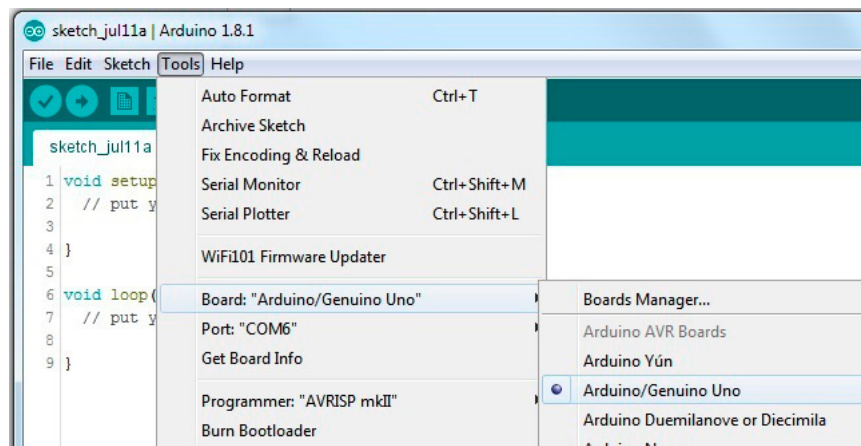

Figure 7. Selecting Compatible Microcontroller Board
- Select the correct Arduino compatible microcontroller board. Under the **Tools** menu, select **Board** → **Arduino/Genuino Uno** with the ● black dot symbol (see Figure 7).